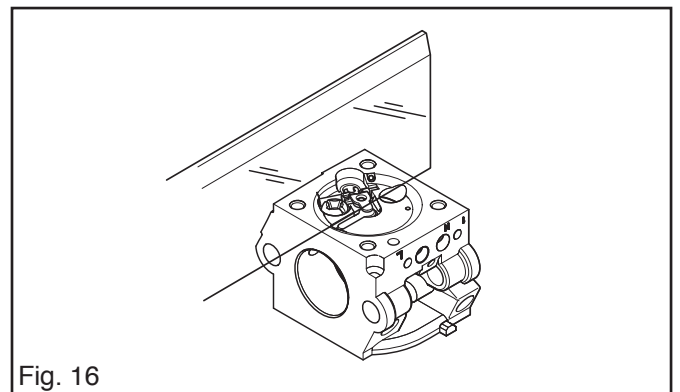

Fig. 16
6. Check with a ruler or the like that the lever is level with the cover face. See fig. 16. If necessary, the lever can be bent slightly.